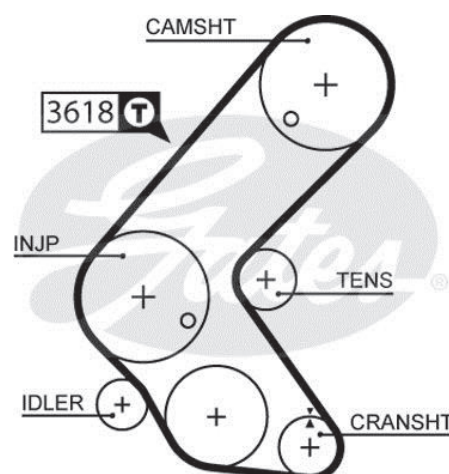

FIG. 7
** After completing step 10 of the installation in procedure A), or step 9 in procedure B), it is highly recommended to check the tension in span **T**, (see drive system layout below - Fig. 7) using Gates Sonic Tension Tester STT-1. Enter code 3618 in the STT-1 (ensure chip version 006 is installed) then measure in the normal way. If the tension is too high then the tensioner should be completely released and tensioning procedure repeated until the green light is obtained. If the tension is too low then it will be necessary to assist the tensioner spring with the Allen key; until the green light is obtained.